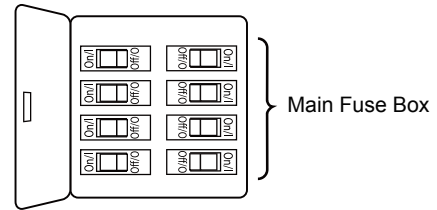
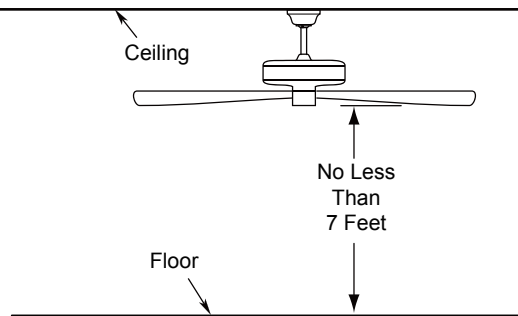

Figure 1
Figure 2
Your new ceiling fan will require a grounded electrical supply line of 120 volts AC, 60 HZ, 15 Amp Circuit. Electrical code requires use of a fan-rated outlet box to support the extra weight and motion associated with a ceiling fan. A fan-rated outlet box will be labeled as such and typically supports up to a 70lb ceiling fan. Fan-Rated Outlet Boxes vary in ratings and design. Ensure the ratings of your ceiling fan outlet box meet the requirements for the ceiling fan being installed. Figure 1, Figure 2 and Figure 3 depicts different structural configurations that may be used for mounting the outlet box.
## Low profile outlet box (Figure 1)
## Deep outlet box (Figure 2)
1. Slide the blade through the slot in the motor assembly and position blade over the motor assembly with threaded posts showing. Make sure the bottom edge of the blade is fully seated against the flywheel of motor assembly. Tighten blade plate with 3/16"-24 screw assembly to secure the blade to the flywheel of motor assembly. (Figure 1)
1. Remove the hanger ball portion from the downrod/hanger ball assembly by loosening the set screw in the hanger ball until the ball falls freely down the downrod. Remove the pin from the downrod, then remove the hanger ball. Retain the pin and hanger ball for reinstallation in Step 6. (Figure 1)
2. Remove the hairpin clip and clevis pin from the bottom of the downrod. Retain the pin and clip for reinstallation in Step 4. (Figure 2)
To avoid possible fire or shock, be sure electricity is turned off at the main fuse box before hanging. (Figure 1)
The fan must be hung with at least 7' of clearance from floor to blades. (Figure 2)
1. To set the code on receiver unit, slide dip switches to the same positions as set on the remote control. (Figure 1)
To avoid possible electrical shock, be sure electricity is turned off at the main fuse box before wiring. (Figure 2)
- 1. Assemble canopy by rotating key slot in canopy over shoulder screw in hanger bracket, taking care not to pinch the wires. Tighten shoulder screw. Fully assemble and tighten second shoulder screw that was previously removed. (Figure 1)
- 2. Securely attach and tighten the canopy screw cover over the shoulder screws in the hanger bracket utilizing the key slot twist-lock feature. (Figure 2)
- 1. Remove one of the three screws in the support bracket at the bottom of the motor assembly and retain the screw for later. Slightly loosen the remaining two screws. (Figure 1)
- 2. Assemble the switch housing assembly to the support bracket using the two key slots in the switch housing assembly. Replace the previously removed screw and securely tighten all three screws. (Figure 2)
- 1. **IMPORTANT:** Using a full range dimmer switch (not included) to control fan speed will damage the fan. To reduce the risk of fire or electrical shock, do not use a full range dimmer switch to control the fan speed. (Figure 1)
- 2. Restore electrical power to the outlet box by turning the electricity on at the main fuse box. (Figure 2)